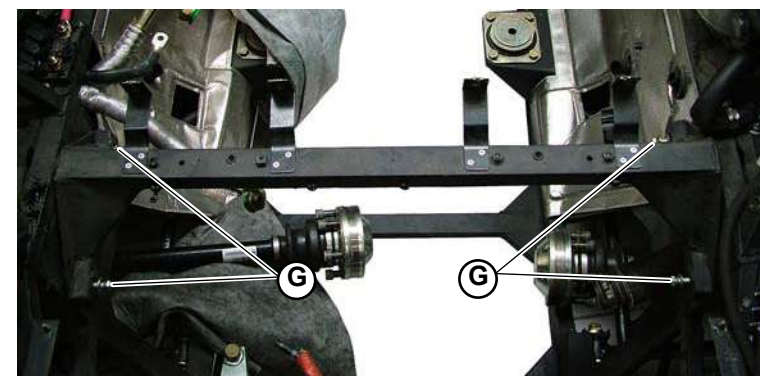

Fig.5
7. Assemble the rear cross member, tightening the 4 screws onto the two inner sides (**G-Fig.5**).